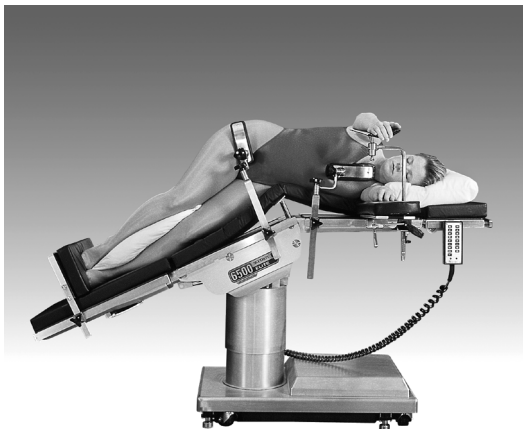

**Figure 3-19. 90 Degree Top Rotation**
**b.** The use of the optional support rod allows the table top to be rotated 90° from the base. See figure 3-19.